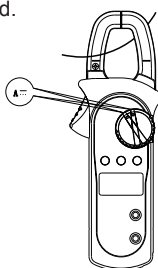

Figure 11
## 9. DC current measurement (A) (See Figure 11)